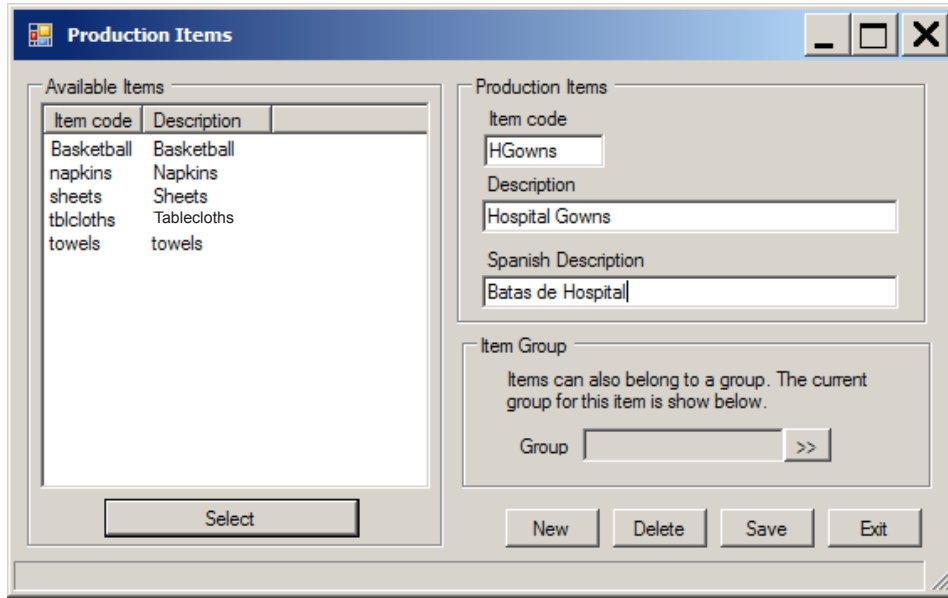

Figure 20. Production Items: New item.
1. Click **New** from the *Production Items* dialog (see Figure 20).